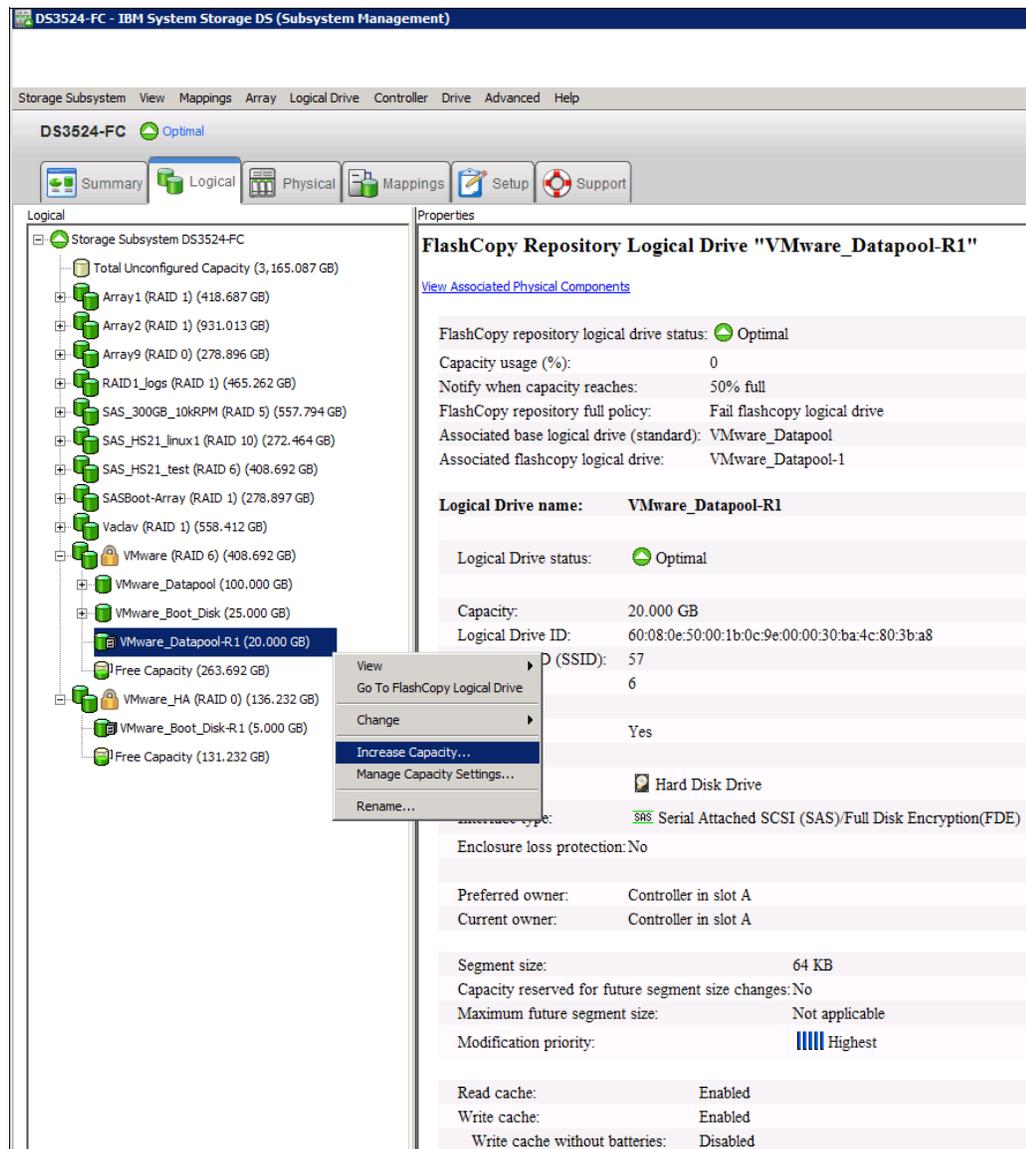

Figure 2-34 FlashCopy Repository logical drive: Increasing capacity
2. Click **Logical Drive** → **Increase Capacity** or right-click and select **Increase Capacity** (Figure 2-34).